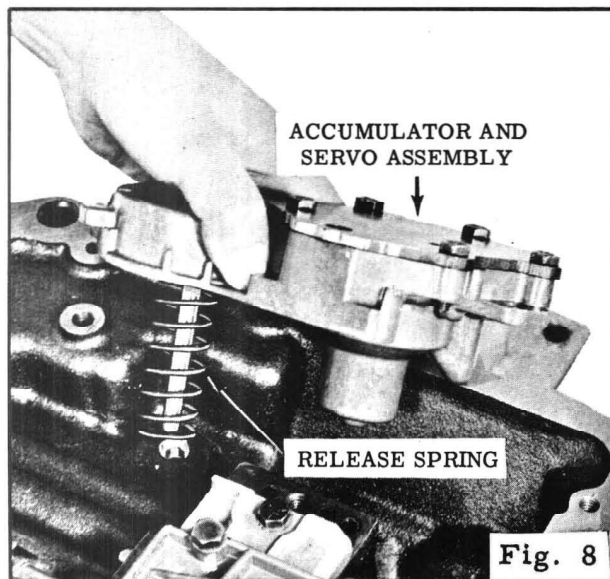

Fig. 8
- ☒ Using a 9/16" wrench, remove the two accumulator and low servo assembly attaching bolts (Fig. 8).